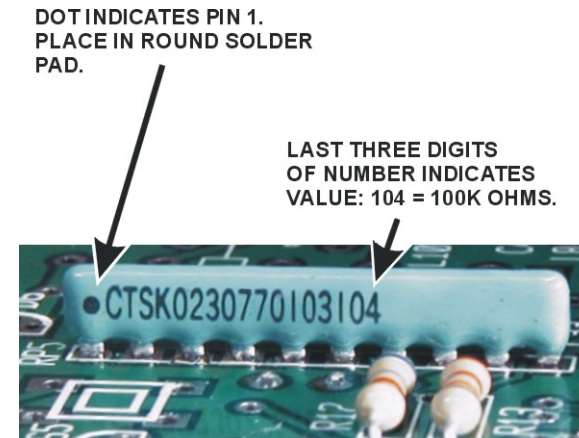

Figure 4. Installing Resistor Packs.
☐ Locate resistor pack RP5, 100 k ohm (104). RP5 is a ten-pin in-line package whose number on the side ends in "104" (see Figure 4). If you are in doubt about the value, use your DMM to verify that the resistance between adjacent pins is 100k ohms. Note the dot at one end indicating pin 1.
Check the position of RP5 to verify that the pins at both ends are inserted as far as they will go into the board as shown in Figure 4, then solder and trim all ten leads.